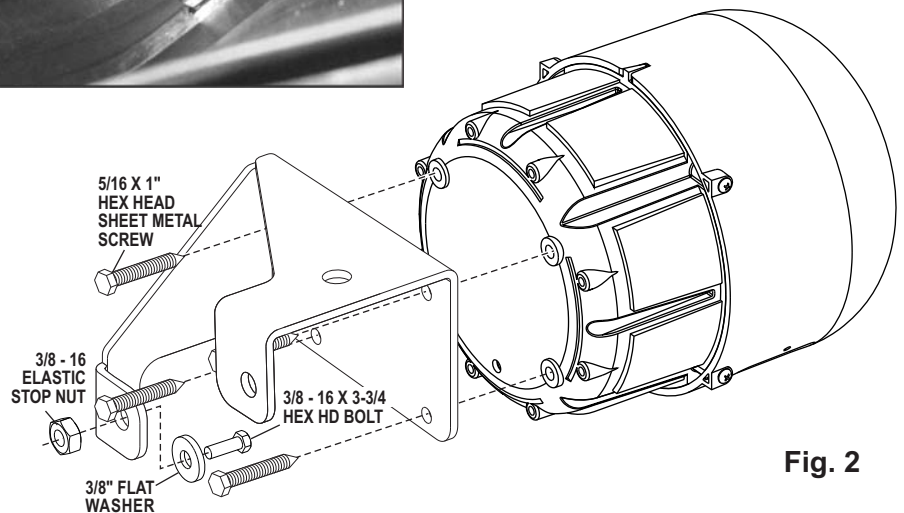

Fig. 2
2. With the brackets mounted, secure the siren speakers to the brackets (Fig 2.)